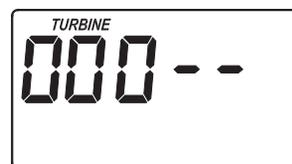

FIG. 13
1. Press and hold the PROGRAM button for a few seconds, until the “000--” screen appears, as shown in Figure 13.